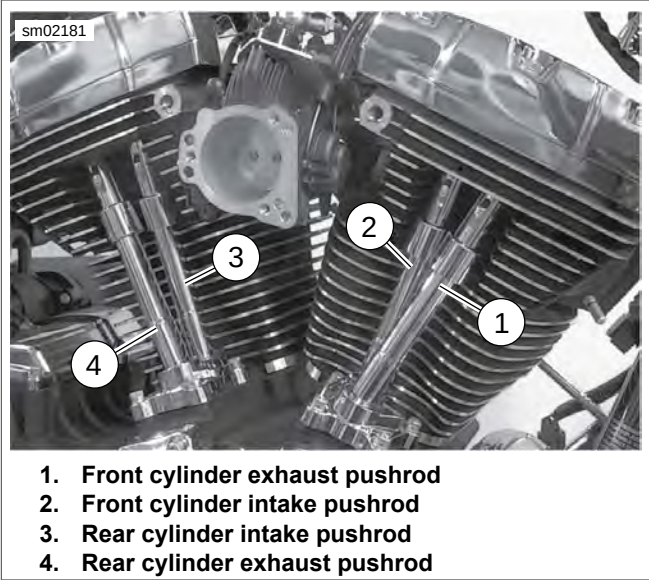

Figure 3-23. Pushrod Locations
1. See Figure 3-23. Remove the intake and exhaust pushrods and pushrod covers: